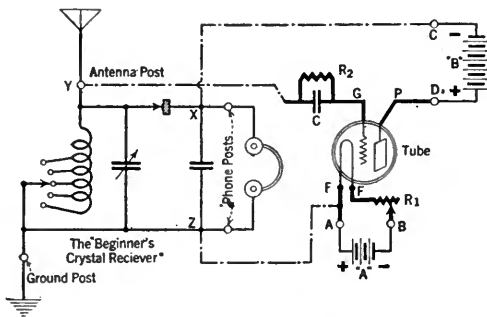

FIG. 2
FIGURE 2 shows how these simple parts are connected together and how they are wired to the crystal set described in this department last month, or to any similar receiver. The heavy lines on the right hand side indicate the connections between the new apparatus. One side of the grid condenser (C) is connected to the grid (G) post on the socket, and the grid leak mounting is connected across the condenser. The grid leak (R₂) is clipped into the mounting. The plate (P) binding post on the socket is run to a binding post (D), which, with post C